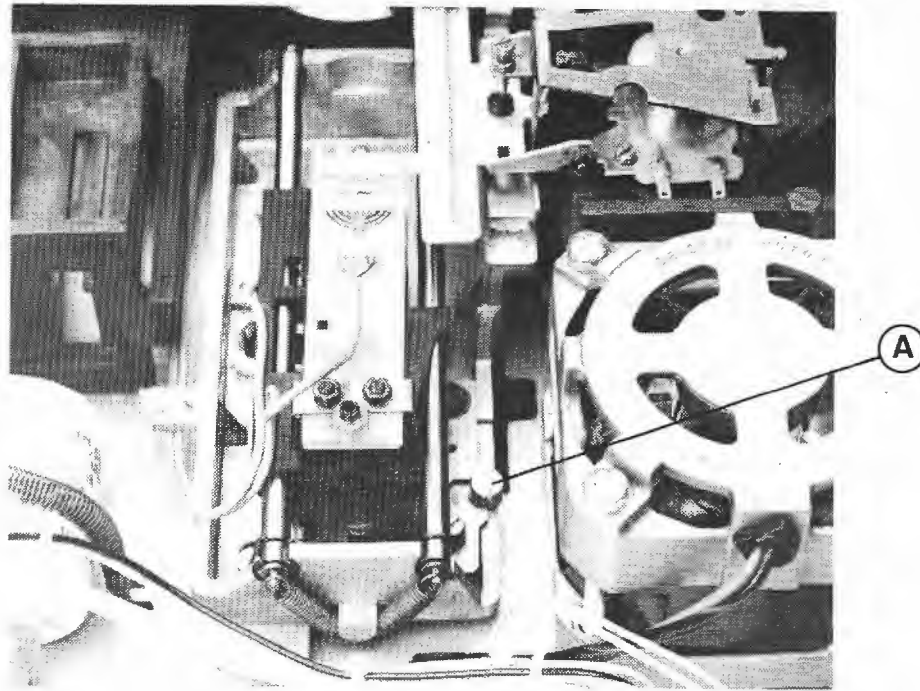

Figure 18. FD 801/FD 802 - Track 0 Adjustment
- c) Activate the step-motor. The motor will automatically go into phase "AC" or Track 0. Using an oscilloscope, adjust the photocell assembly (moving the "A" screw, see Fig. 18) so that when at Track 0, the signal will be dark. When at track 1, the signal will be uncertain or "flickering" and at track 2 it will be light.